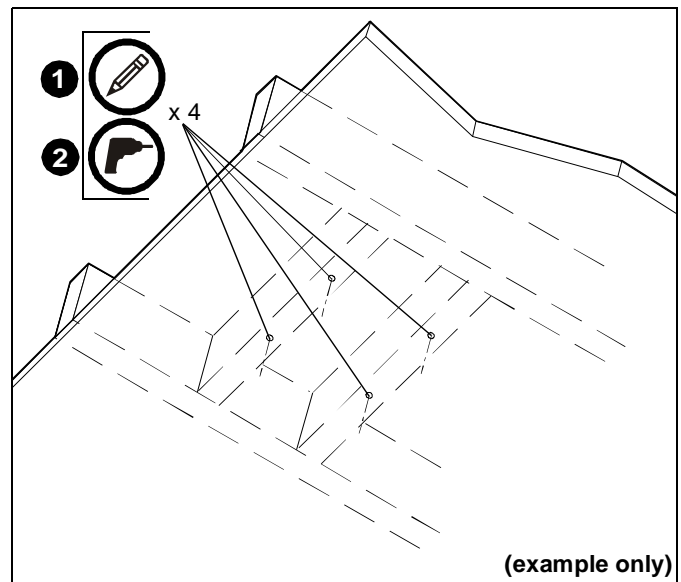

Figure 2
1. Using the RPA as a guide, mark four mounting hole locations. (See Figure 2)
2. Drill four 1/8" x 1-1/2" deep (minimum depth) pilot holes. (See Figure 2)